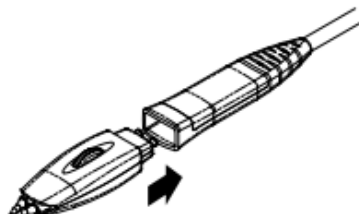

Figure 1-7 To Connect the Probe Head to the Preamp of the Active Probe
1. Connect the probe head to the preamp of the active probe, as shown in Figure 1-7.